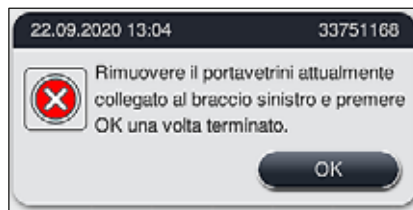

Fig. 131
5. Confermare premendo **OK** (→ "Fig. 131").